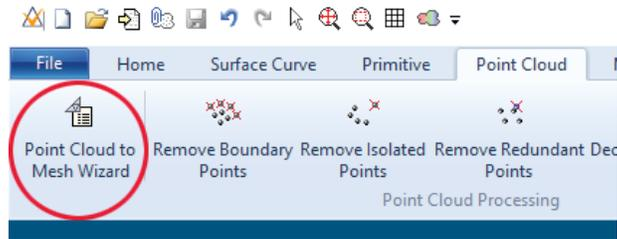

Figure 3.
5. Turn your point cloud into a mesh file. Select the tab "Point Cloud" and then push "Point Cloud to Mesh Wizard" as indicated in Figure 3.